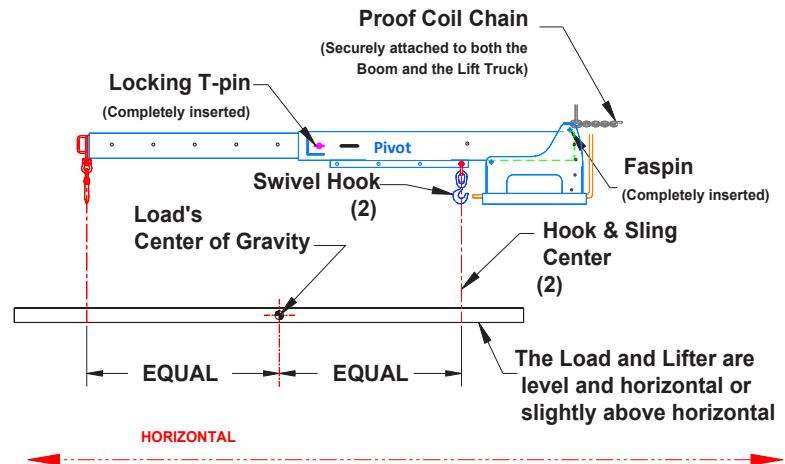

Figure 14
- Perform a test lift of several inches, verifying load security and balance; verify the lifter is level and horizontal or slightly above horizontal (see figure 14).